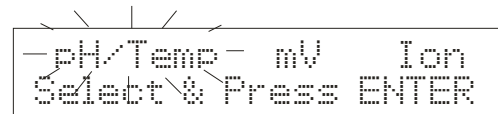
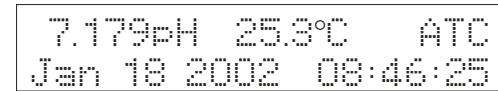

Figure 13
Figure 14
1. Turn the meter **ON**. If the meter is not in the pH measurement mode, press **EXIT** and press **>/CAL** to select pH/Temp. The mode selected will flash. See **Figure 13**. Press **ENTER** to confirm selection. The meter is now in pH measurement mode. See **Figure 14**.